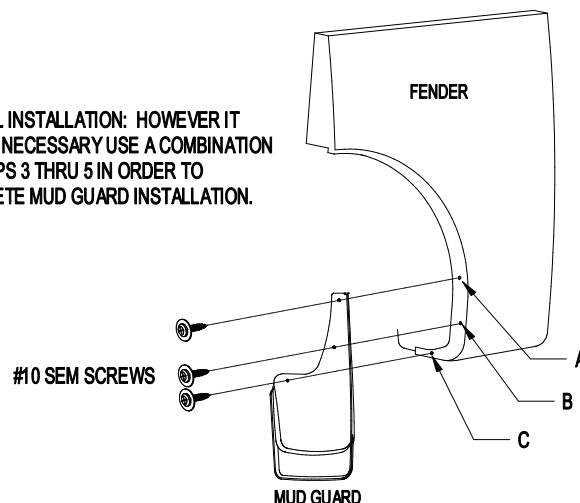

Figure 1
4. **If some or all holes need to be drilled into fender:** (Figure 1) Align mud guard, mark and drill 1/8" hole (approx 1/4" from top of mud guard where possible) and attach mud guard to fender with a #10 SEM screw. Make sure mud guard is level to ground before tightening. With mud guard in place, mark and drill remaining holes and fasten with #10 SEM screws. Space mounting holes evenly to insure maximum support of mud guard.